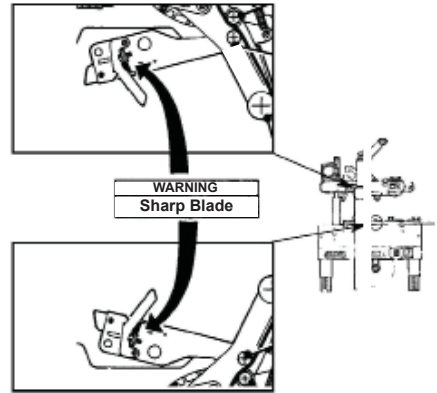

Figure 3-5
**Important!** Tape cutting blade. Never remove the safety device which covers the blade on the top and bottom taping units. Blades are extremely sharp. Any error may cause serious injuries (**Figure 3-5**).